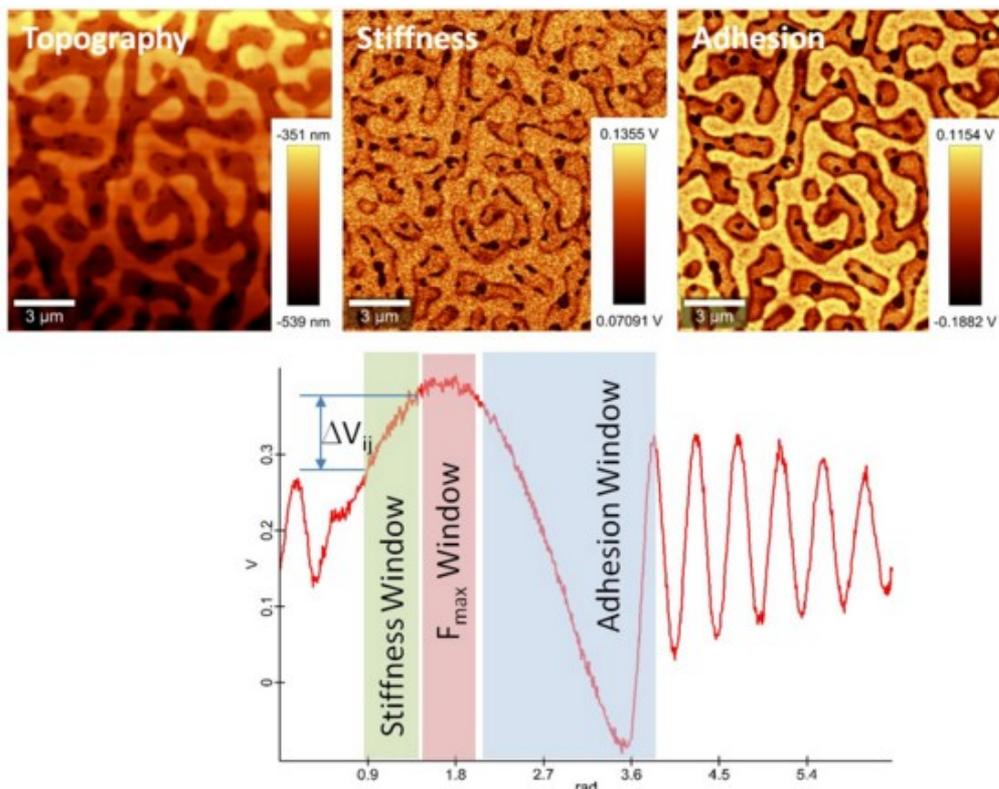

Fig. 1: Results of the DPFM measurement on the polymer blend
Fig. 1 shows the topography, adhesion and stiffness images as measured using the parameter listed in table 1. A typical pulsed force curve from this dataset shows the window selection for stiffness, F_{max} , and adhesion.
- The stiffness image displays the changes in ΔV_{ij} as shown in the pulsed-force curve in Fig. 1.